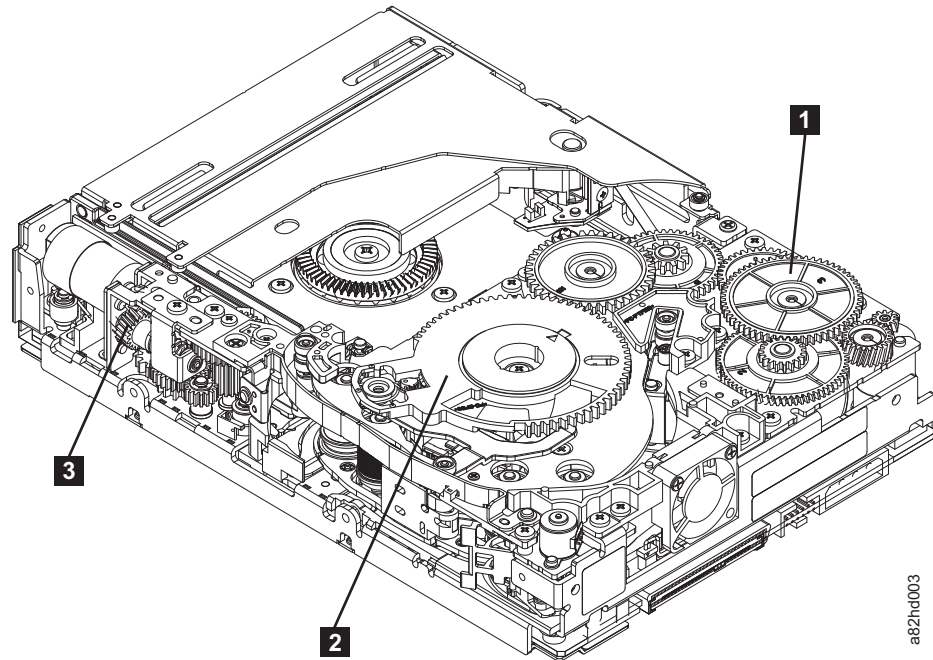

Figure E-7. Drive with cover removed to reveal gear train.
4. Locate the threader intermediate gear (**1** in Figure E-7) near the rear of the drive. You can use your finger to rotate the threader intermediate gear (**1** in Figure E-7) and slowly rotate the threader mechanism gear (**2** in Figure E-7) clockwise.
5. As the leader pin is secured in the cartridge, you should hear the leader pin retention spring clips click into place. If you do not hear the click, continue rolling until the threader intermediate gear (**1** in Figure E-7) stops. The LBA is in the correct position.
6. Rotate the loader motor worm gear (**3** in Figure E-7) clockwise as viewed from the front of the drive until it stops. This releases the LBA leader pin.
7. Rotate the threader intermediate gear (**1** in Figure E-7) counterclockwise until the leader block is in front of the Read/Write head. This moves the LBA
8. Rotate the loader motor worm gear (**3** in Figure E-7 on page E-8) counterclockwise as viewed from the front of the drive until it stops.